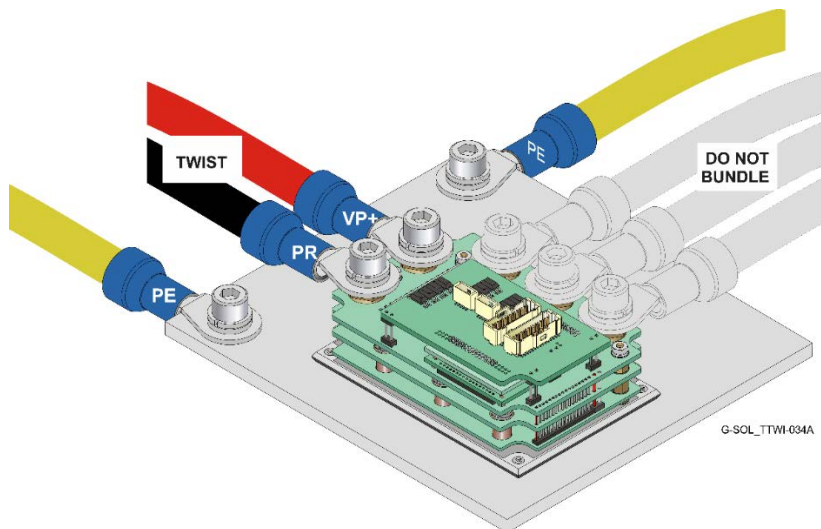

Figure 9: Connecting the Main Power Wires
3. Connect the VP+ and PR wires to the terminals on the servo-drive as shown in Figure 9. It is highly recommended to twist the two DC main power cables at intervals of 10 cm.